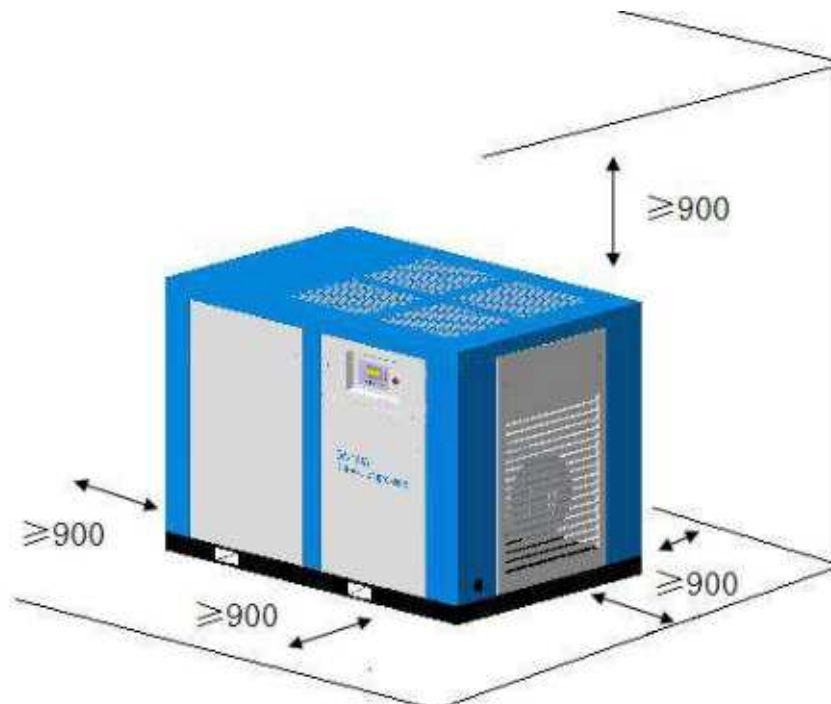

Fig. 3.1
- (1) The air compressor shall be installed indoors where it is well ventilated and lit other than the places with high dust, high humidity, etchant gas, metallic dust, direct radiation of sunlight or direct rainwater.;
- (2) The range of ambient temperature is 2°C~45°C.
- (3) The air compressor shall be kept away from boilers and equipment which may emit heat, and shall be equipped with awnings with favorable ventilation environment while being installed outdoors.
- (4) The ventilating fans around and over the air compressor shall set apart at least 900 mm maintenance space (see Fig. 3.1).
- (5) The altitude shall be less than 1000 m.
- (6) The relative humidity shall be less than 85%.
No matter the air compressor is installed indoors or outdoors, good ventilation shall be ensured to avoid heat short cycle or interaction effect from heat extraction of the machines, so the locations of vent pipes, ventilating fans and compressors must be considered (there are typically three ways, see Fig. 3.1)